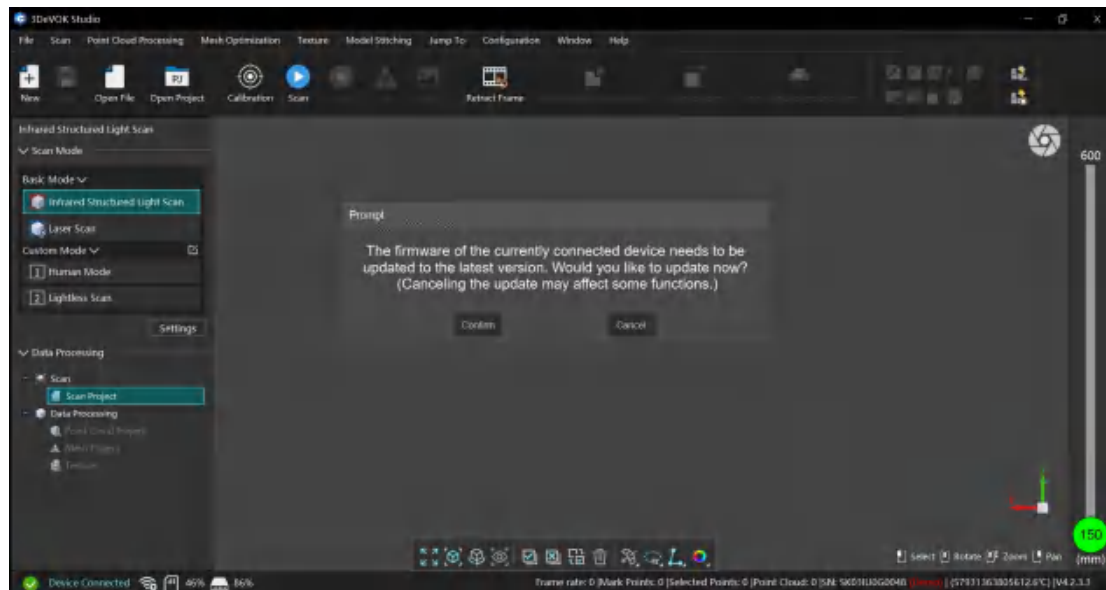

Figure 5-4 Firmware Update Prompt
1. Connect the device. The software automatically checks for firmware and screen updates and prompts if needed, which is shown in Figure 5-4.